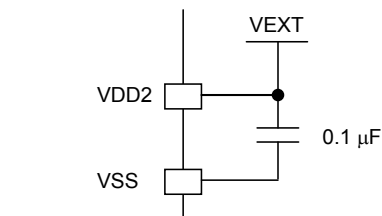

Fig. 2
- When the external supply voltage  $V_{EXT} = 1.8\text{ V}$  to  $3.6\text{ V}$ , connect VDD2 to VEXT directly as shown in Fig. 2.